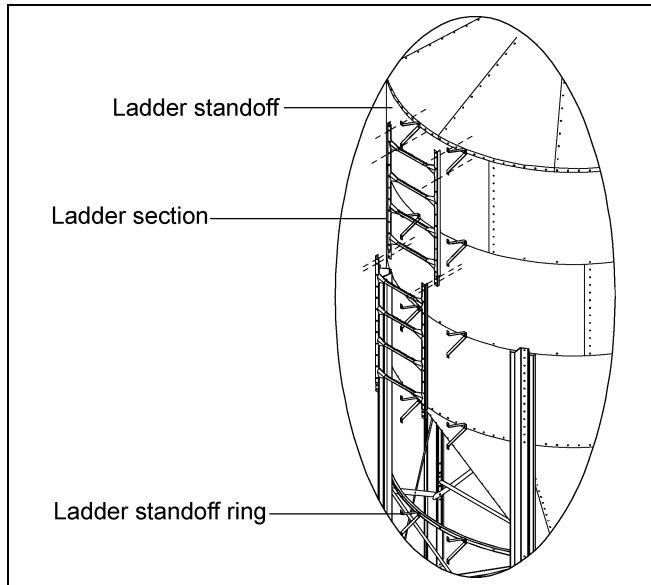

Figure 10A *Ladder Standoff Detail*
To start sidewall ladder, places two (2) outside standoffs spaces 18-3/4" apart. At the roof eave, the ladder should be located on the standoffs. (See Figure 10A.) Continue with standoff located on every horizontal seam. Ladder support ring should be located between two (2) legs as shown. This will standoff the ladder at the bottom of Bulk Feed Tank. When positioning the ladder on the tank, be sure to attach ladder so the raised non-slip tread surface is to the **top** of the ladder rungs.